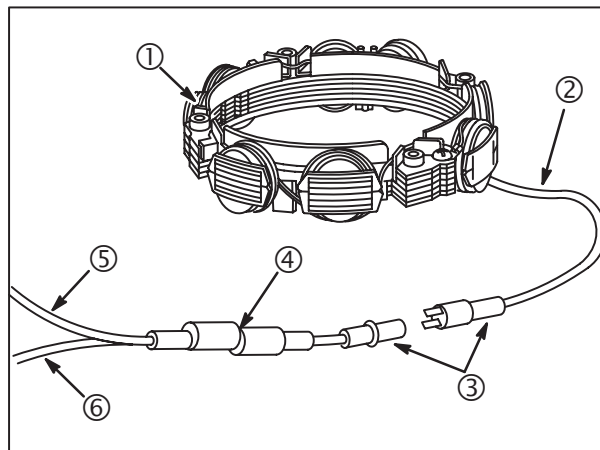

Fig. 19
Stator assembly (1), **Fig. 19**.